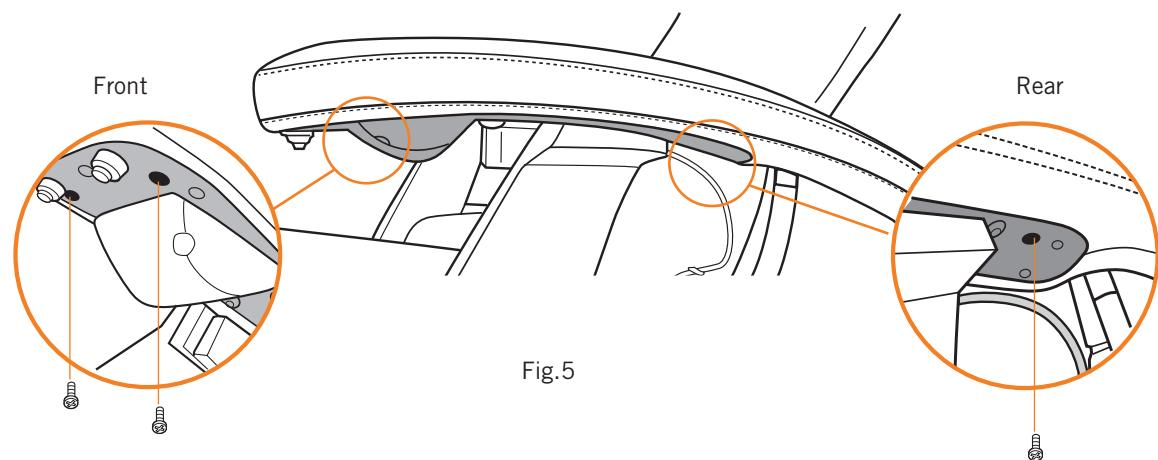

Fig.5
7. While pressing down on the armrest cap, secure it using the provided Phillips-head screwdriver and three screws (Fig.5).